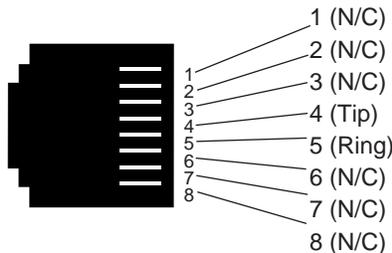

Figure 11. mDSL Access Rack Card twisted pair line interface.
1. The RJ-45 connector on the mDSL Access Rack Card's twisted pair interface is polarity insensitive and is wired for a two-wire interface. The signal/pin relationships are shown in Figure 11 below.